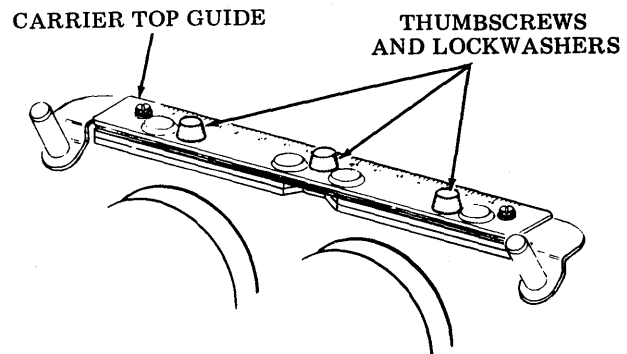

Fig. 35—Top Guide
(c) On late design units (carrier top guide secured to backup bar with three thumbscrews), remove the carrier top guide (Fig. 35).
- (b) Remove three thumbscrews and lock-washers securing carrier top guide and remove guide (guide not present on 132-column) (Fig. 35).